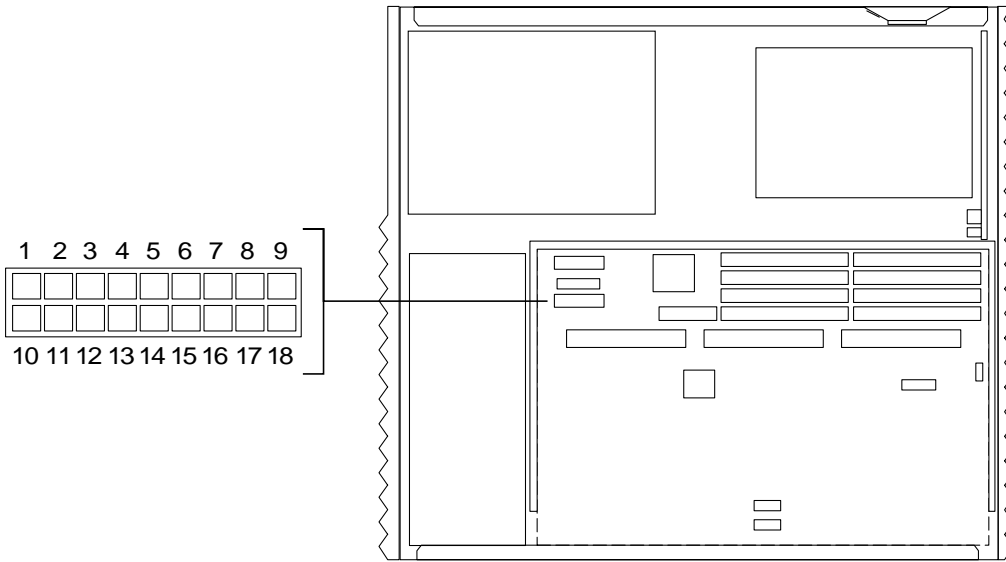
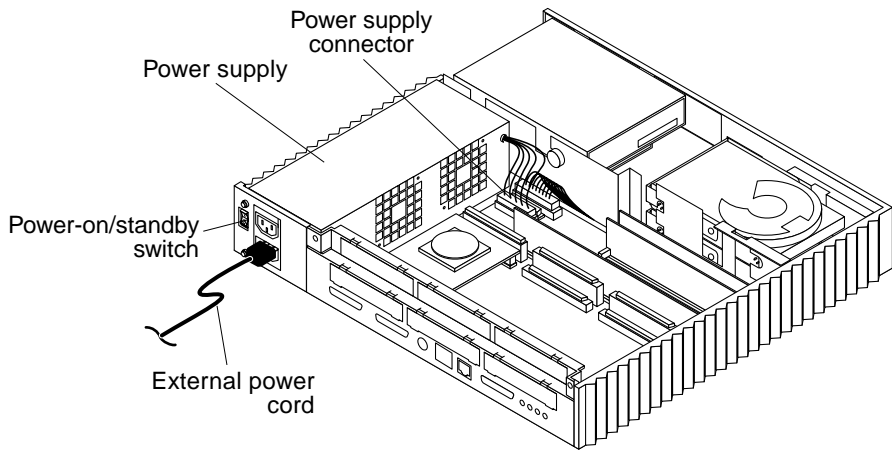

FIGURE 4-1 Power Supply Connector Pinouts
FIGURE 4-2 Power Supply and Power Supply Connector Location
1. Using a VOM, check the output voltages of the power supply (FIGURE 4-1, FIGURE 4-2, and TABLE 4-2).